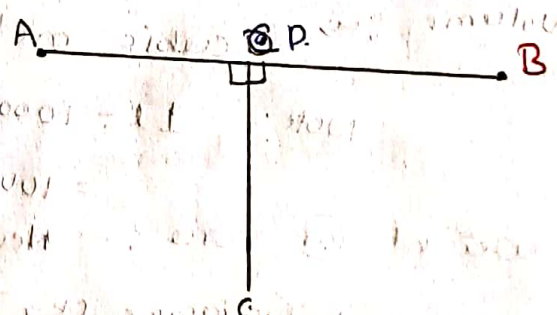

Fig. 2d
- d) By dropping perpendicular from A on line AB and measuring two distances like AD and CD (or) BD and CD (Ref. fig 2d)